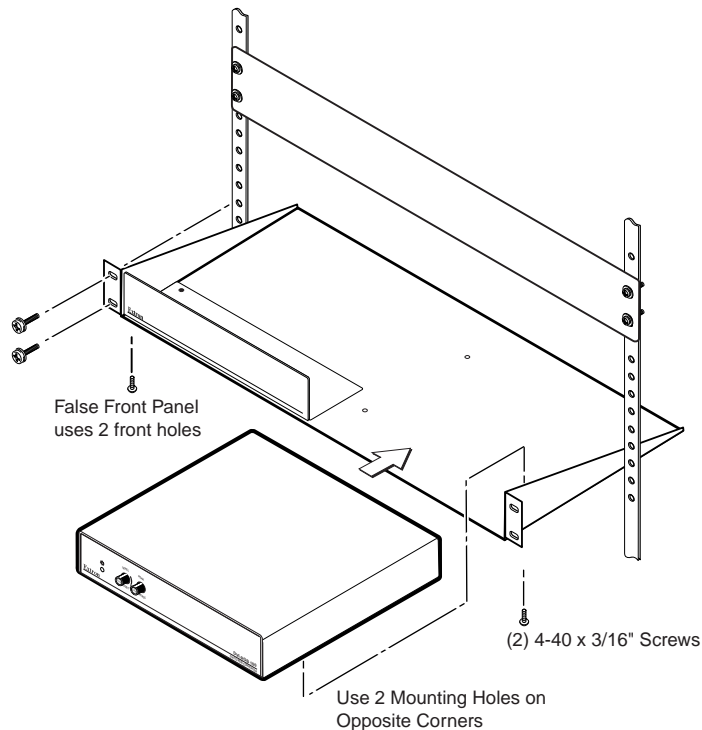

Figure 3 — Rack mounting the DVI-RGB 100
2. For optional rack mounting, mount the converter on a 19" 1U Universal Rack Shelf (Extron part #60-190-01) (figure 3).